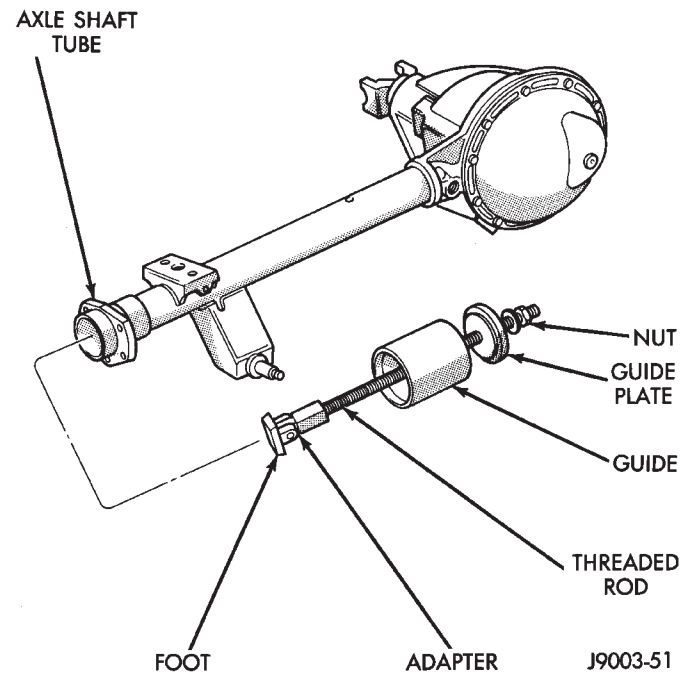

Fig. 8 Axle Shaft Bearing Removal Tool
(4) Remove the axle shaft bearing from the tube (Fig. 8) with Bearing Removal Tool Set 6310 (T.Ar 960-02).